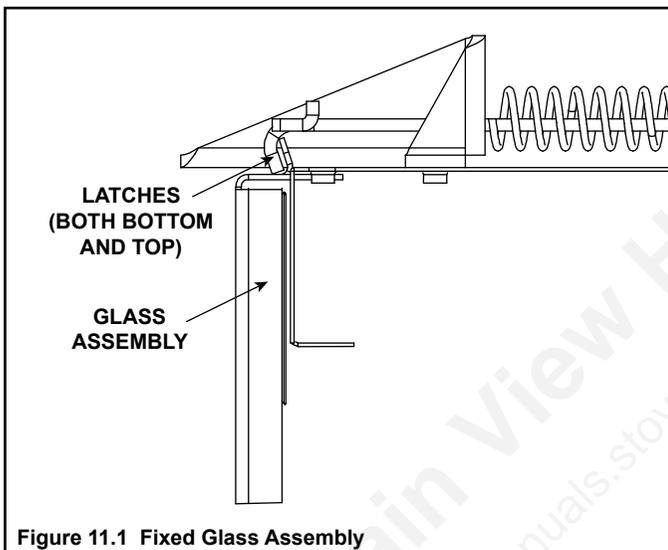

Figure 11.1 Fixed Glass Assembly
- Pull the four glass assembly latches out of the groove on the glass frame. Remove glass assembly from the appliance (see Figure 11.1).